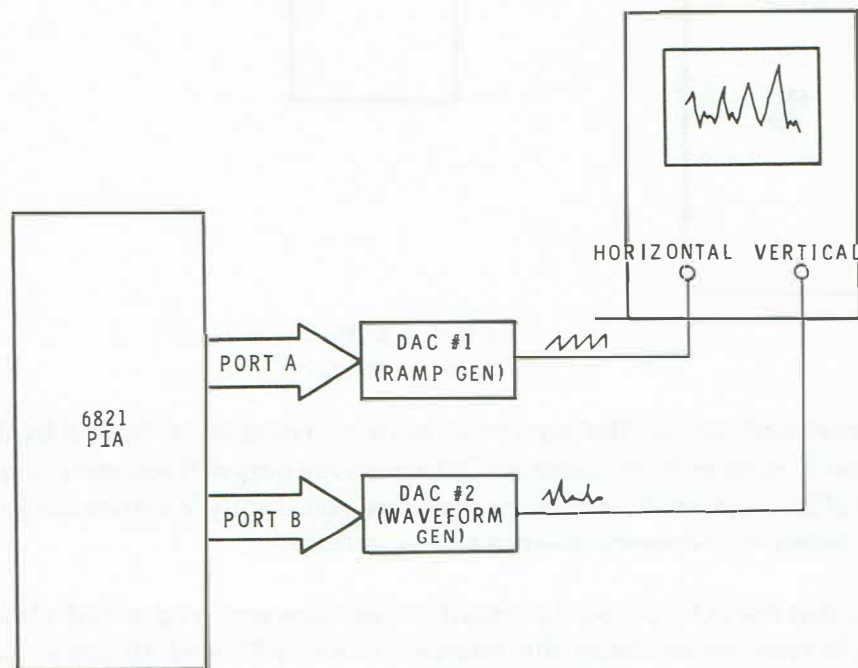

Figure 8-27
Two DACs can be used to display a waveform on an X-Y display device such as an X-Y chart recorder or oscilloscope as shown in Figure 8-27. One DAC will generate a binary ramp for the horizontal (X) input while the second DAC provides the waveform output to the vertical (Y) input.